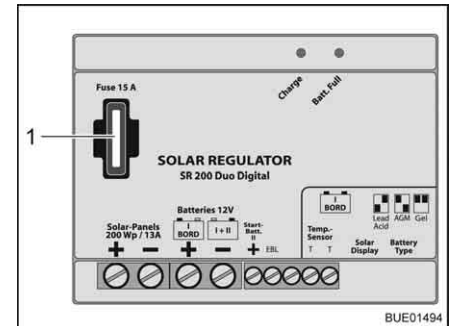

Fig. 167 Fuse of the 140/200 W solar charge regulator
- Replace flat fuse 15 A/blue (Fig. 167,1).